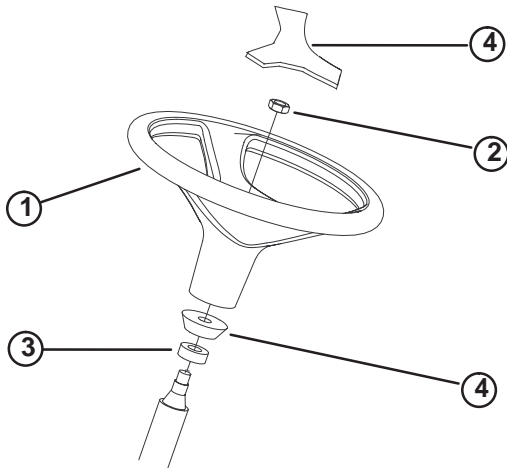

Figure 2
1. Remove steering wheel from seat plate. Remove cap from steering wheel (Fig. 2).
2. Remove jam nut from steering shaft. Make sure foam collar and dust cover are on steering shaft (Fig. 2). Slide steering wheel onto steering shaft.